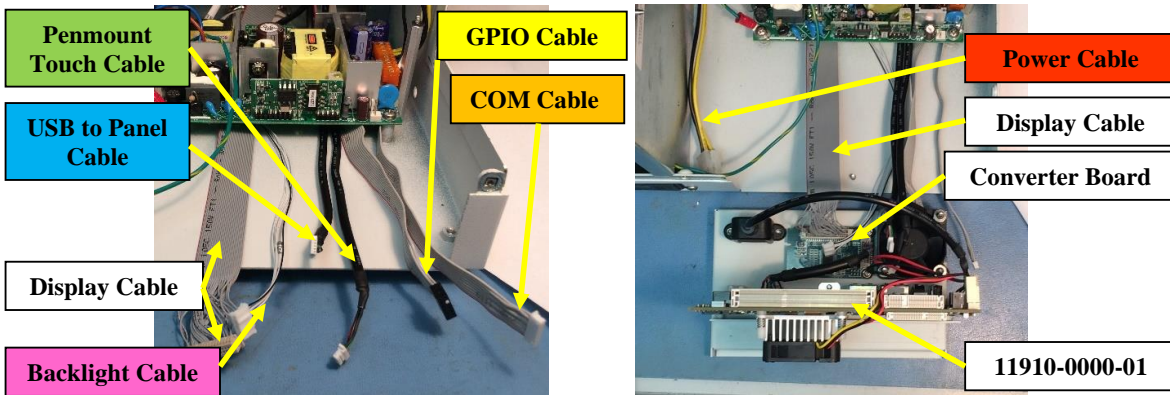

Figure 56
- 20.10. Thread the Backlight Cable (coming from the display) under the Power Supply towards the middle as shown in Figure 56 (left).
- 20.11. Thread the Display Cable (coming from the display) under the Power Supply, towards the middle as shown in Figure 56 (left).
- 20.12. Place the PC CPU Assembly (11910-0000-01) face down near the Cables at the rear of the Chassis as shown in Figure 56 (right). Attach the Display Cable to CN2 of the CPU Assembly's converter board as shown.